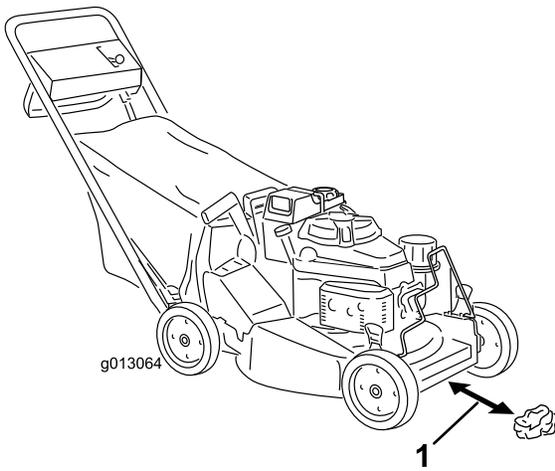
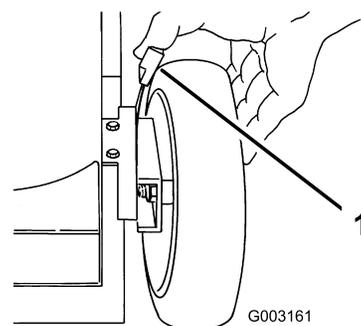

Figure 14
Figure 19
3. Set all 4 wheels in to the 2-1/2 inches (64 mm) cutting height setting (Figure 19).
4. Set the ground speed selector to the Neutral (N) position.
5. Take a half sheet of newspaper and crumple it into a ball small enough to go under the deck (about 3 inches or 76 mm in diameter) as shown in Figure 14.
6. Place the ball of newspaper 5 inches (12.7 cm) in front of the lawn mower (Figure 14).
- A. Place the ball of newspaper 5 inches (12.7 cm) in front of the lawn mower (Figure 14).
1. Pull the wheel height adjustment lever toward the wheel (Figure 19) and move it to the desired setting.